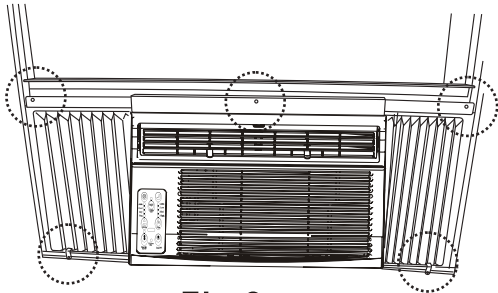

Fig.8
B. Drive 3/4" (19mm) or 1/2" (12.7mm) locking screws through frame holes into window sash (Fig.8).